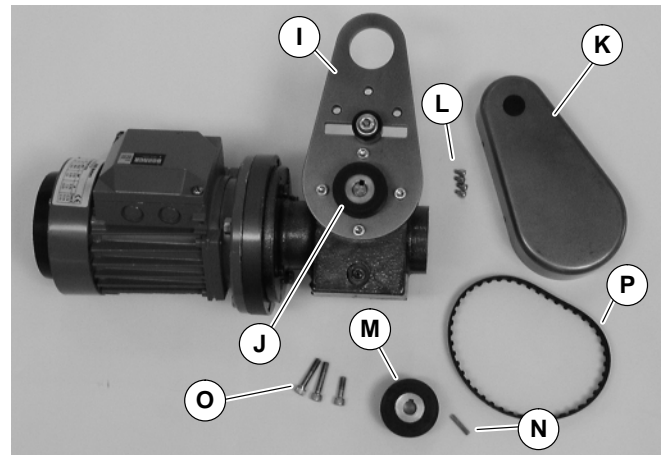

Figure 4
## 1. Gather installation components (Figure 4)
**NOTE:** Type 1 mounting package shown (Figure 4), Type 2 mounting package similar.